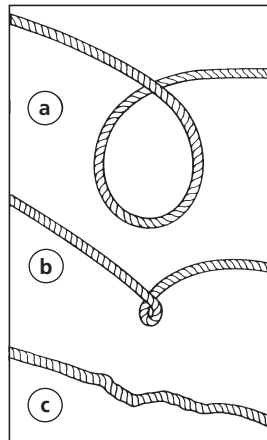

Figure 10
5. **PREVENT KINKS BEFORE THEY OCCUR.** (FIGURE 10).